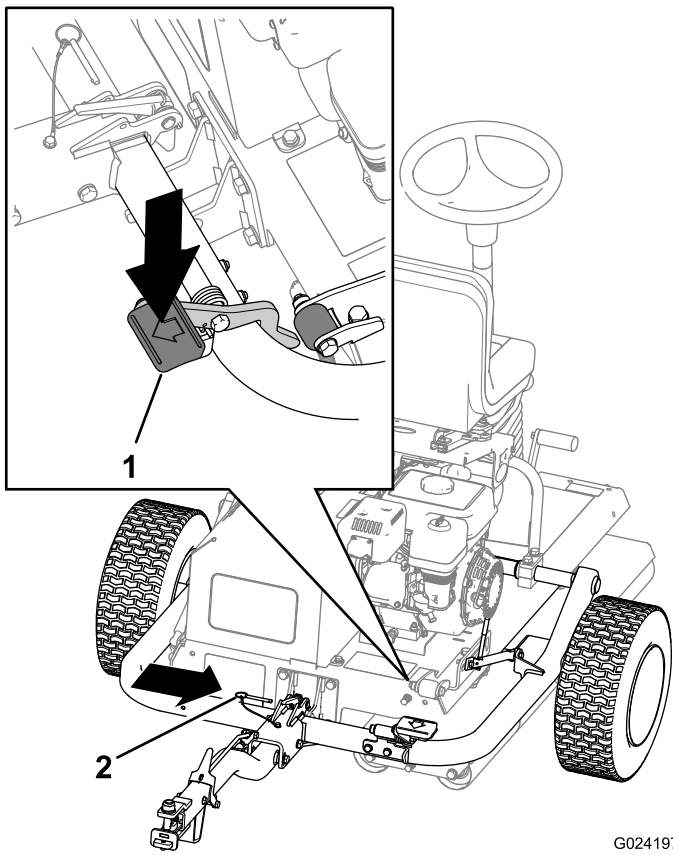

Figure 8
6. Step on the hitch pedal until the hitch locks into place (**Figure 8**).
7. Insert the locking pin (Figure 8).